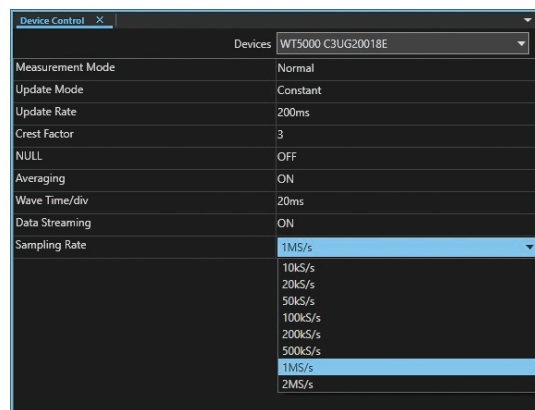

Figure 3. Setting the DS function in the IS8000
The actual operations and settings are as follows:In the IS8000's DAQ (WT) setting, turn on the DS function to capture waveform data. At this step, set the sampling rate as high as possible (see Figure 3).